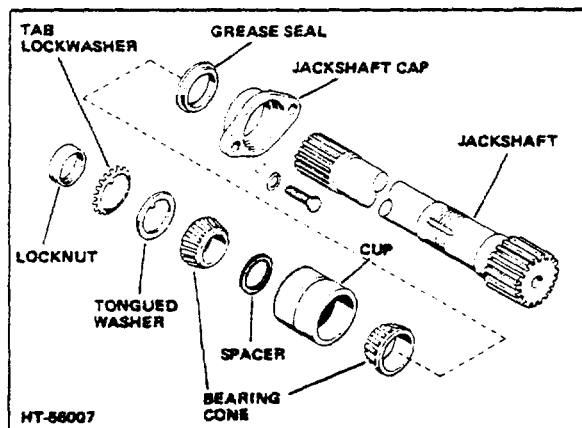

Figure 2-4. Jackshaft Assembly
8. Straighten locking tabs of lockwasher (Fig 2-4); remove locknut, lockwasher, and tongued washer from jackshaft.
2. Install jackshaft cap (Fig 2-4), new grease seal, bearing assembly, tongued washer, tab lockwasher, and locknut on jackshaft.